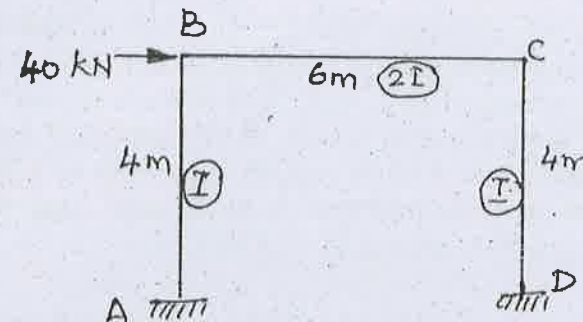

Fig. Q.15(b)
- (b) Analyze the frame shown in Fig. Q.15(b) by moment distribution method and draw the bending moment diagram.